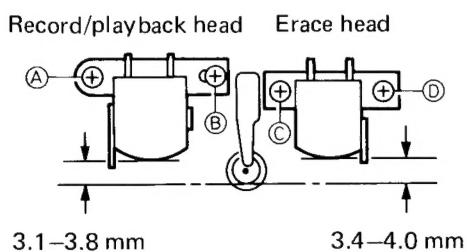

Fig. 15
- 1) To replace the record/playback head, remove two screws **(A)** and **(B)** shown in Fig. 15.
- 2) To replace the erase head, remove two screws **(C)** and **(D)** shown in Fig. 15.
- 3) When pressing the playback button, adjust these heads with the screws and the adjustment hole so that they are located as shown in Fig. 15.
- 3) Adjust the head angle by turning screw **(B)** shown in Fig. 15 so that the phase difference between the L and R outputs is 0° and the outputs are maximum.